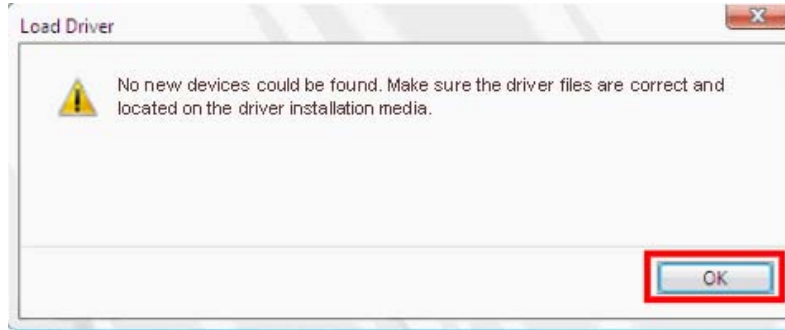

Figure 4-27: Confirm the Driver File
Step 5: Click **OK** to continue (Figure 4-27).